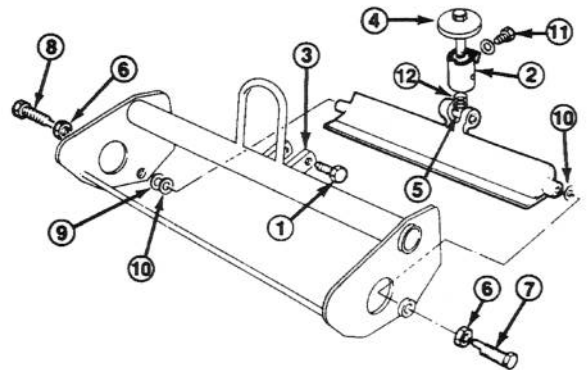

Figure 12
1. Remove spring arm retaining capscrew and washer from pivot assembly. Loosen pivot screws securing bedknife pivot assembly to reel frame supports (Fig. 12).
2. Rotate adjustment knob and pivot assembly clockwise (left hand thread) until it is unthreaded from bedbar pivot (Fig. 12).
3. Loosen jam nuts retaining right and left bed bar pivot bolts. Remove pivot bolts (Fig. 12).
8. Mount the right side of the bedbar to the side plate with the shoulder bolt, jam nut, steel washer, and plastic washer. Position washers between bedbar and side plate with plastic washer closest to bedbar. Adjust shoulder bolt (right hand) until left end of bedbar assembly firmly seats against left side plate. clamping the plastic washer tightly—thus all end-play is removed from bedbar. Bedbar must pivot without binding, with bedknife adjusting knob and pivot assembly not installed. Tighten the jam nut while holding the shoulder bolt (Fig. 12).
9. Thread adjustment knob and pivot assembly into flat side of bedbar pivot until mounting holes in pivot assembly are aligned with holes in reel frame supports and bedknife does not interfere with reel (Fig. 12).